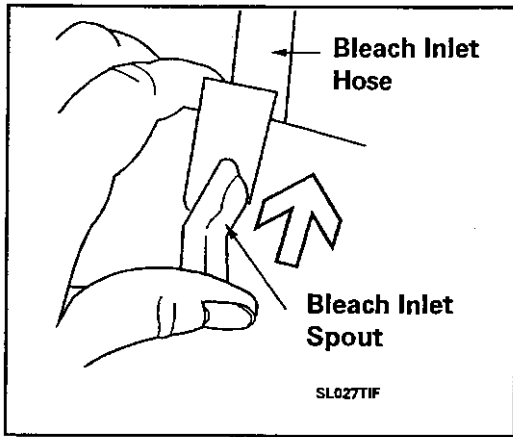

Figure 5-8
9. Tilt the plastic shroud forward and remove the fabric softener and bleach dispenser inlet hoses by sliding the spouts up (*Figure 5-8*).
**NOTE:** *When the cord is released, the lock will go back into a locked position (Figure 5-8).*